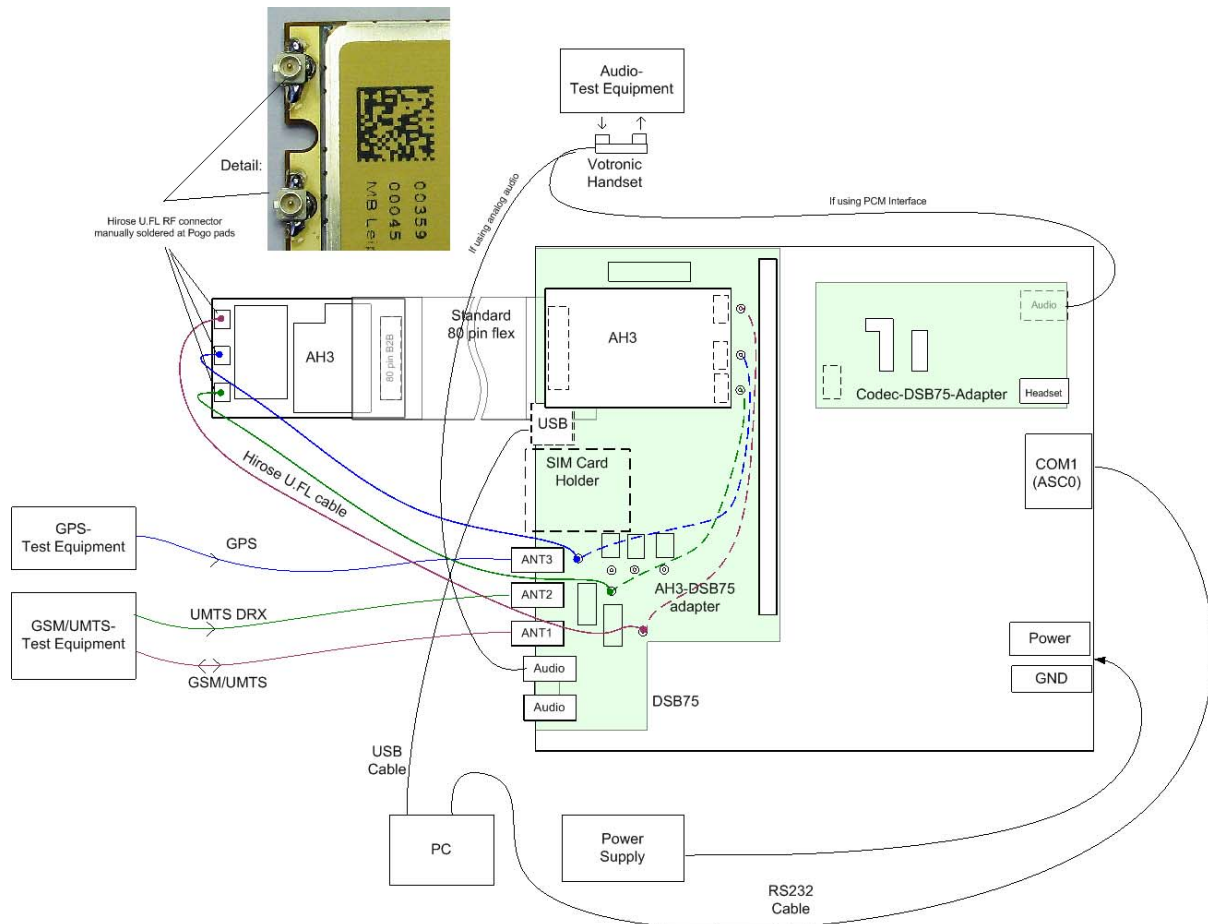

Figure 13: Reference equipment for type approval
1. For RF performance tests a mini-SMT/U.FL to SMA adapter with attached 6dB coaxial attenuator is chosen to connect the module directly to the GSM/UMTS/GPS test equipment instead of employing the SMA antenna connectors on the AH3-W-DSB75 adapter as shown in Figure 13. The following products are recommended: